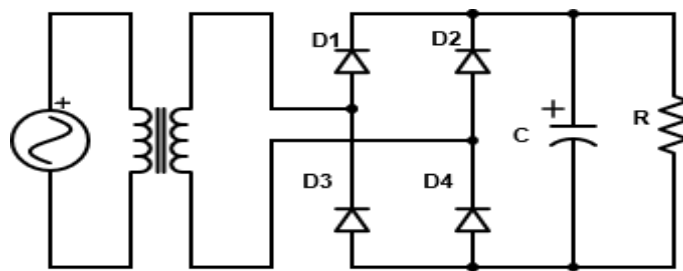

Fig. 8.1 Diode bridge rectifier
The circuit diagram of diode bridge rectifier circuit is given in Fig. 8.1. During the positive half cycle of the input voltage, the load current flows from the positive input terminal to the negative through D1, RL and D4. During this time, the positive input terminal is applied to the cathode of D2 and D3, so it is reversed biased. These two diodes are forward biased during negative half cycle; D1 and D4 are reverse biased. And finally both half cycles are rectified and the output is unidirectional voltage. In order to convert unidirectional to ripple free/reduced ripple DC voltage filters are used. The size of the filter depends on load current, line frequency, ripple factor. In other words, the ripple content depends on the load current and capacitor values. Hence, in this experiment ripple contents are measured for different load resistor and filter capacitor values.
1. Connect the circuit as per the circuit given in Fig. 8.1 without capacitor.
4. Calculate  $V_{DC} = \frac{2V_m}{\pi}$ ,  $V_{RMS}$  and the ripple factor (RF) =  $\sqrt{\left(\frac{V_{RMS}}{V_{DC}}\right)^2 - 1}$
- Connect the circuit as per the circuit given in Fig. 8.1